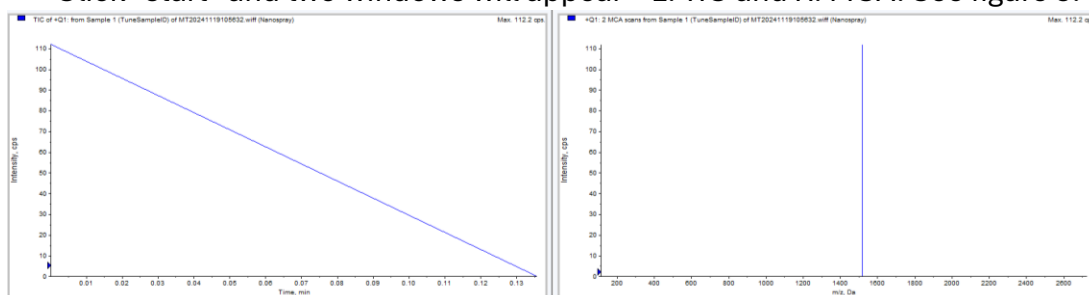

Figure 5: Total Ion Count (TIC) and Multiple/Multi-Channel Average (MCA) windows
- Click “start” and two windows will appear – L: TIC and R: MCA. See figure 5.